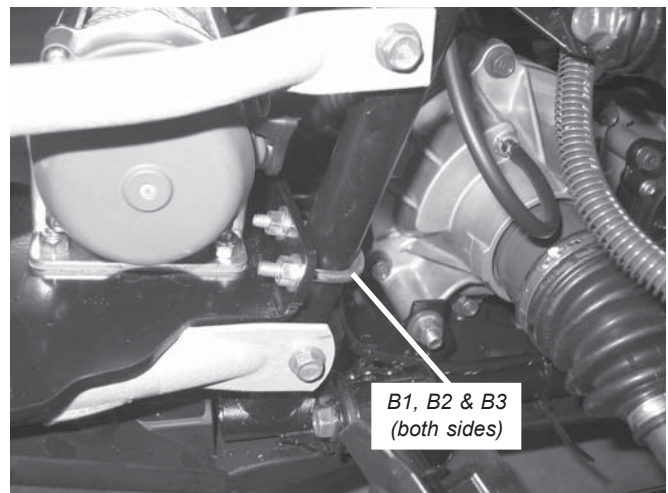

Figure 7 Attach Rear Hardware
7. Install the two remaining 1/4-20 x 1 1/8" x 1 3/4" U-bolts (B1), four 1/4" flat washers (B2) and four 1/4-20 lock nuts (B3) onto the rear vertical frame tubes, figure 7. Tighten the 1/4" U-bolts to a recommended torque of 10 N-m (7 ft-lbs).